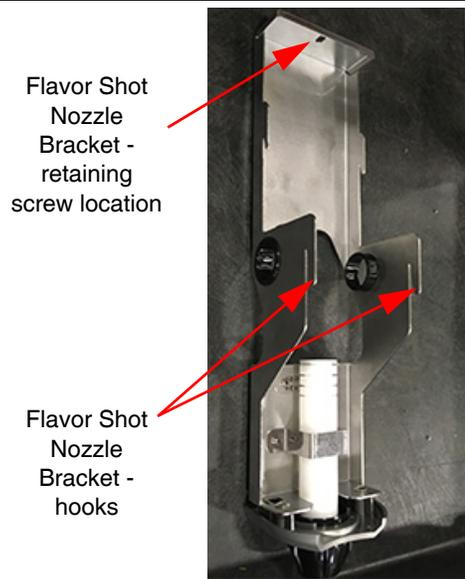

FIGURE 17
1. Locate and become familiar with the Flavor Shot Nozzle Assembly. See FIGURE 17.